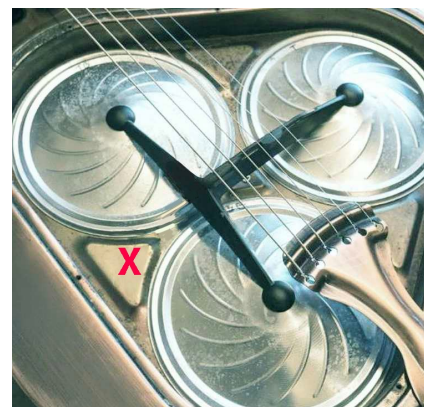

fig 3
- 2) Drill a small 1/4" hole through the deck in the X indicated area (or a bit closer to the T bridge if there is room) shown in fig 3. Make sure that the hole is clean and has no sharp burrs or edges. Insert the supplied rubber grommet into the hole.